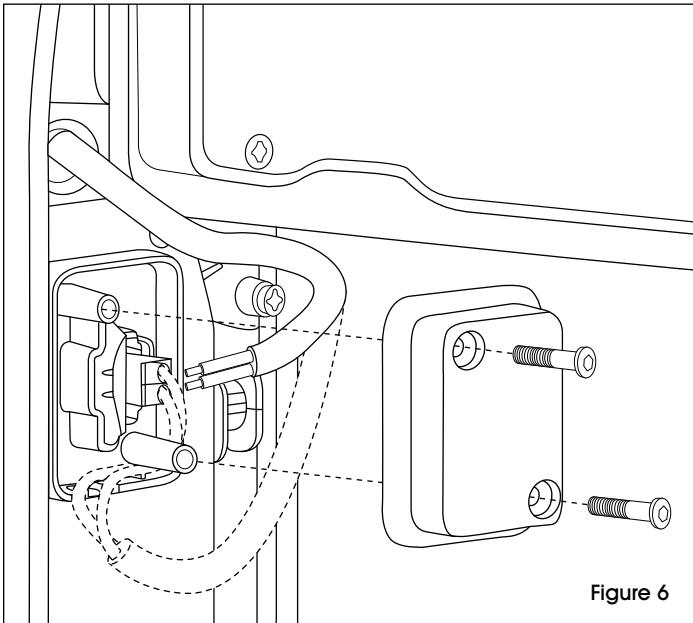

Figure 6
10. Once cable has been passed through hole, connect each end to respective terminal, placing each one in the right path. Close box. (See Figure 6)